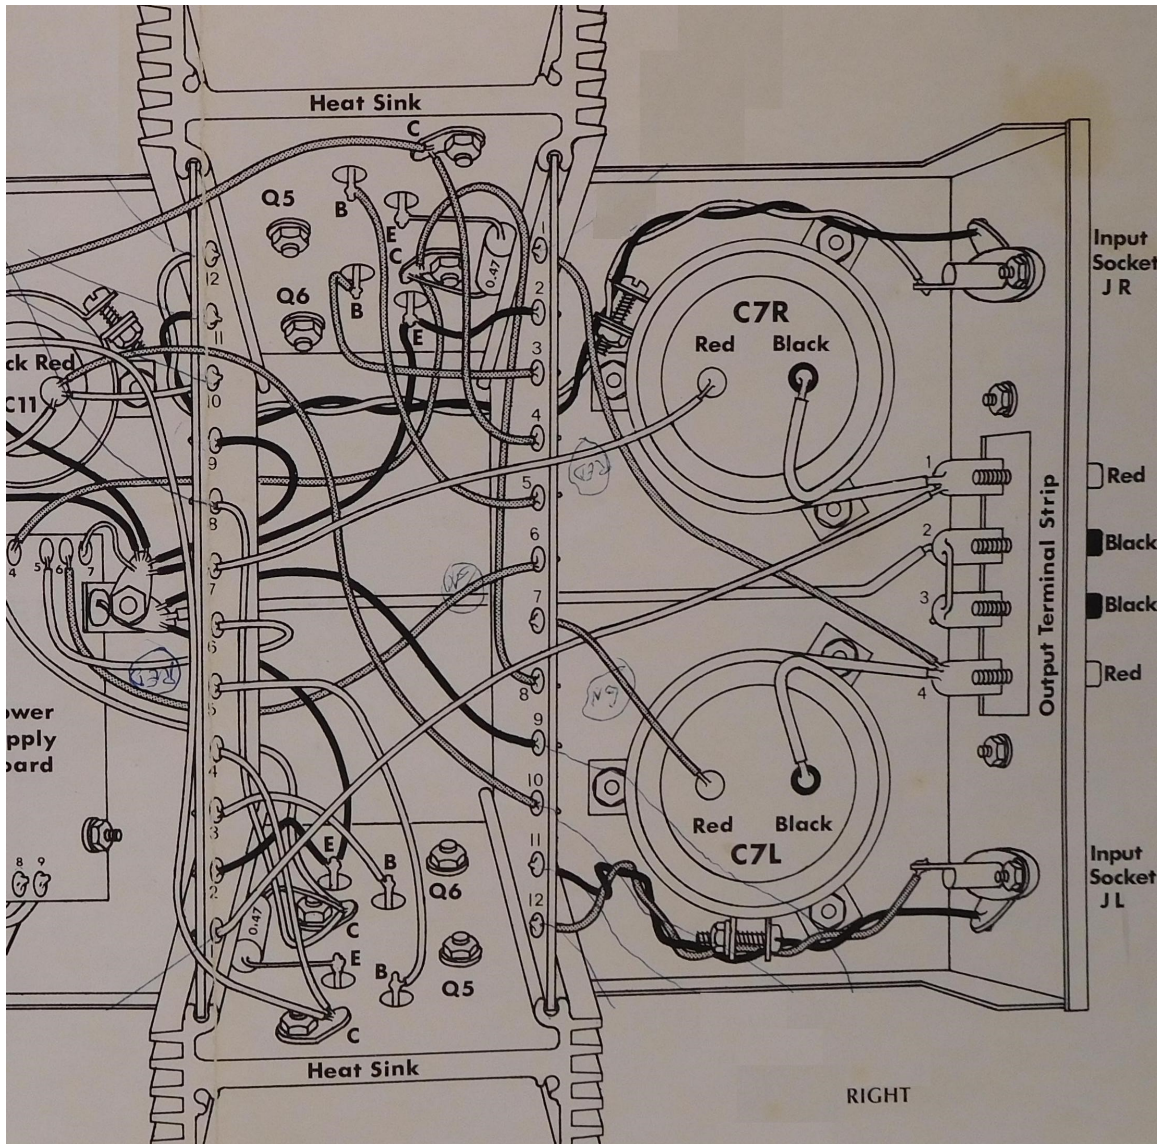
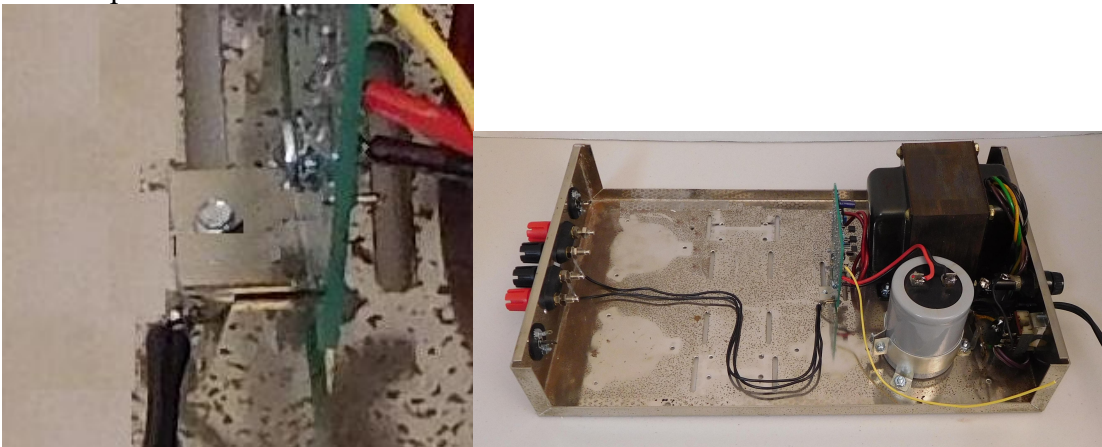

Figure 7-Audio Connector Side of the Amplifier
Figure 8-Grounding arrangement for speaker common connections
Refer to Figure 7.
- c. Form the wire as shown in the right side of Figure 8.
5. Insert and finger tighten a 6-32x $\frac{1}{4}$ " sems screw from the bottom of the chassis, through the chassis, the lug, and into the power supply mounting bracket. See the left side of Figure 8.
8. Route the ground wires as shown in Figure 8. The roundabout shape leaves room to mount the amplifier modules in a later step. Connect the free ends of the two black ground wires to the common terminals (terminals 2 and 3 in Figure 7) of the speaker terminal board.